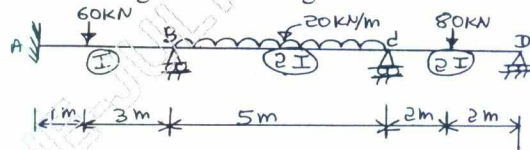

Fig.Q1
- 1 Analyze the continuous beam as shown in Fig.Q1 by slope deflection method and also determine its bending moment diagram and shear force diagram.